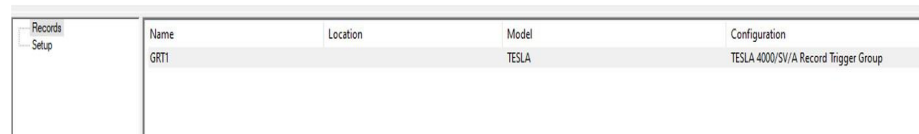

Figure 15.9: Group Record Trigger Mode IED entry shown in main menu
2. After adding the group IED, two menu items, **Records** and **Setup**, will appear in the left-hand tree view (Figure 15.9).